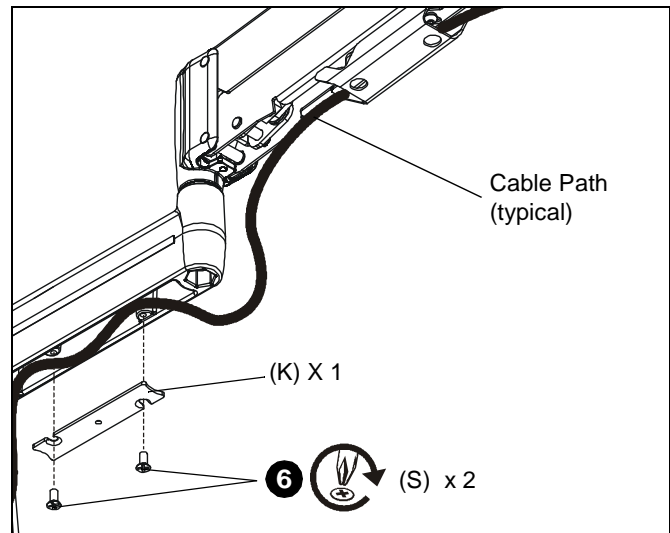

Figure 10
5. Carefully insert cables in cavity located in lower portion of mount arm. (See Figure 10)
6. Using Phillips screwdriver, install cover (K) with two screws (S). (See Figure 10)